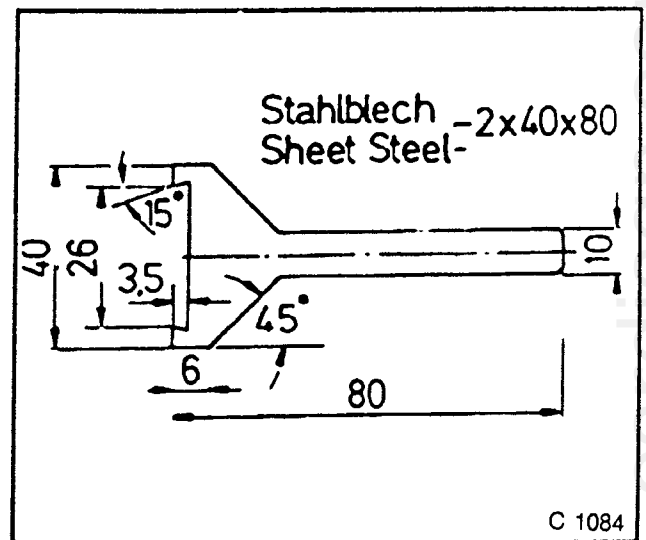

Fig. 137
1. Remove retaining rings from grooves in end shield, KM-443-A. As assembly aid, tension retaining ring for main shaft with installation plate (A). Measurements for own construction, see Fig. 137.